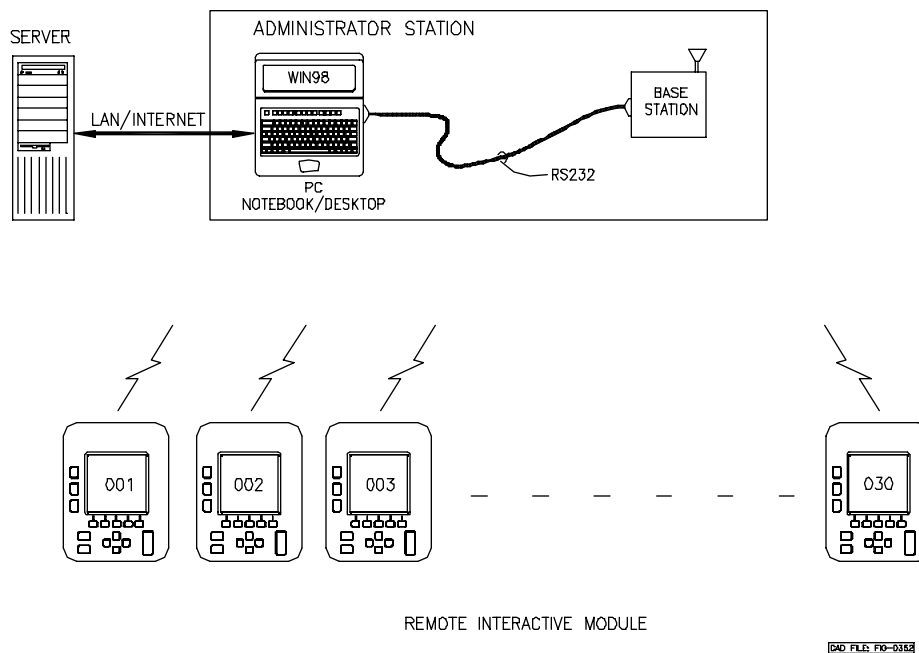

Figure 1. RSS Operation
2.0 System Overview. The RSS consists of a single base station, thirty hand held remote interactive modules and a software package which executes on a personal computer (PC) with a Windows95/98 operating system. The software package will also run on a Macintosh PC. The software package is designed to communicate over a local area network with a server running the software included. The handheld units communicate over a wireless Radio Frequency (RF) link to a base station and utilize rechargeable batteries for “no wires” operation. Figure 1. illustrates the RSS operation.